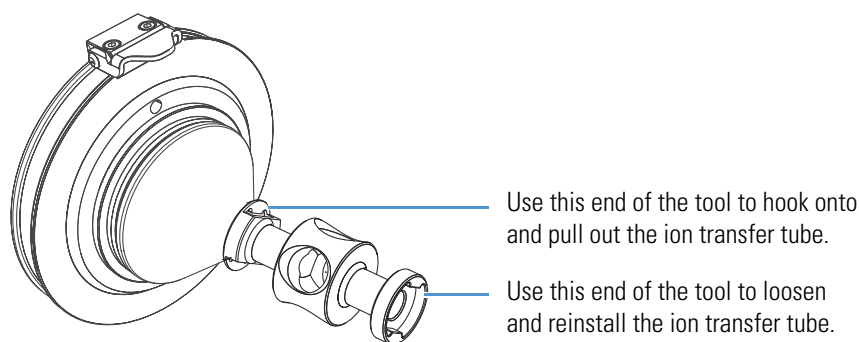

Figure 8-5. Removing the ion transfer tube
- Using the correct end of the custom removal tool (Figure 8-5), rotate the ion transfer tube only 1/4-turn counterclockwise. Then, use the other end of the tool to remove the tube from the API source interface.